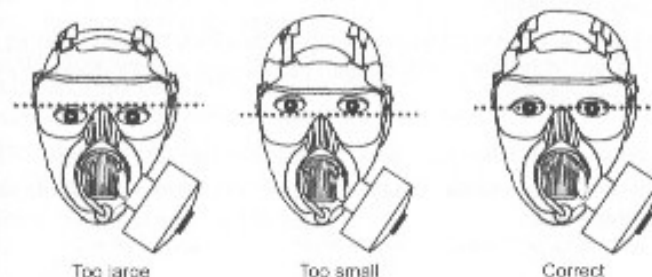

Fig 3: Eye Level Assessment
- The center of the pupil of the eye should ideally be at or slightly above the horizontal centerline of the lens (see fig 3). If the eyes are in this position the correct size of respirator has been selected.